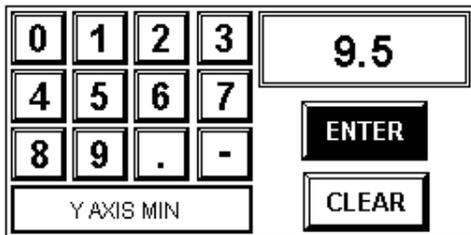

Figure ZD.2-43: Numeric Entry for Y Axis Min
- The *Numeric Entry Screen* is displayed with Y AXIS MIN label in the Title Window {Figure ZD.2-43} for entry of the Y Axis minimum value.